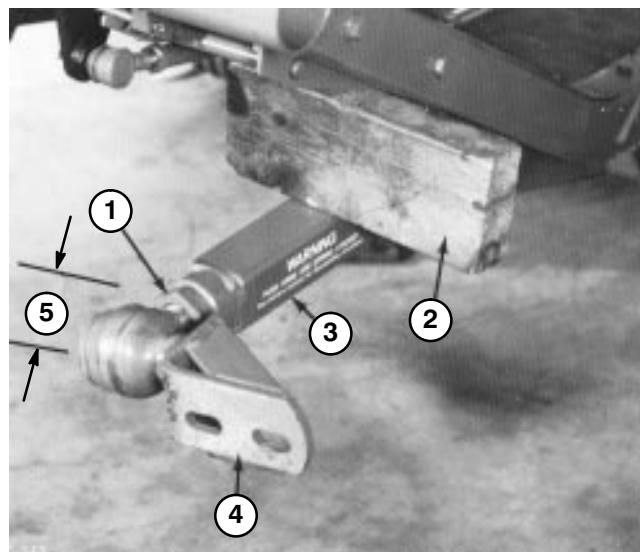

Figure 18
4. Have a helper push down on the left push arm. Then insert a 2 x 4 in. (51 x 102 mm) block of wood between the frame and top of the push arm (Fig. 18). Screw ball joint into left hand push arm until center of ball joint is 2-3/8 inches (60 mm) away from front of push arm (Fig. 18). Do not tighten jam nut.